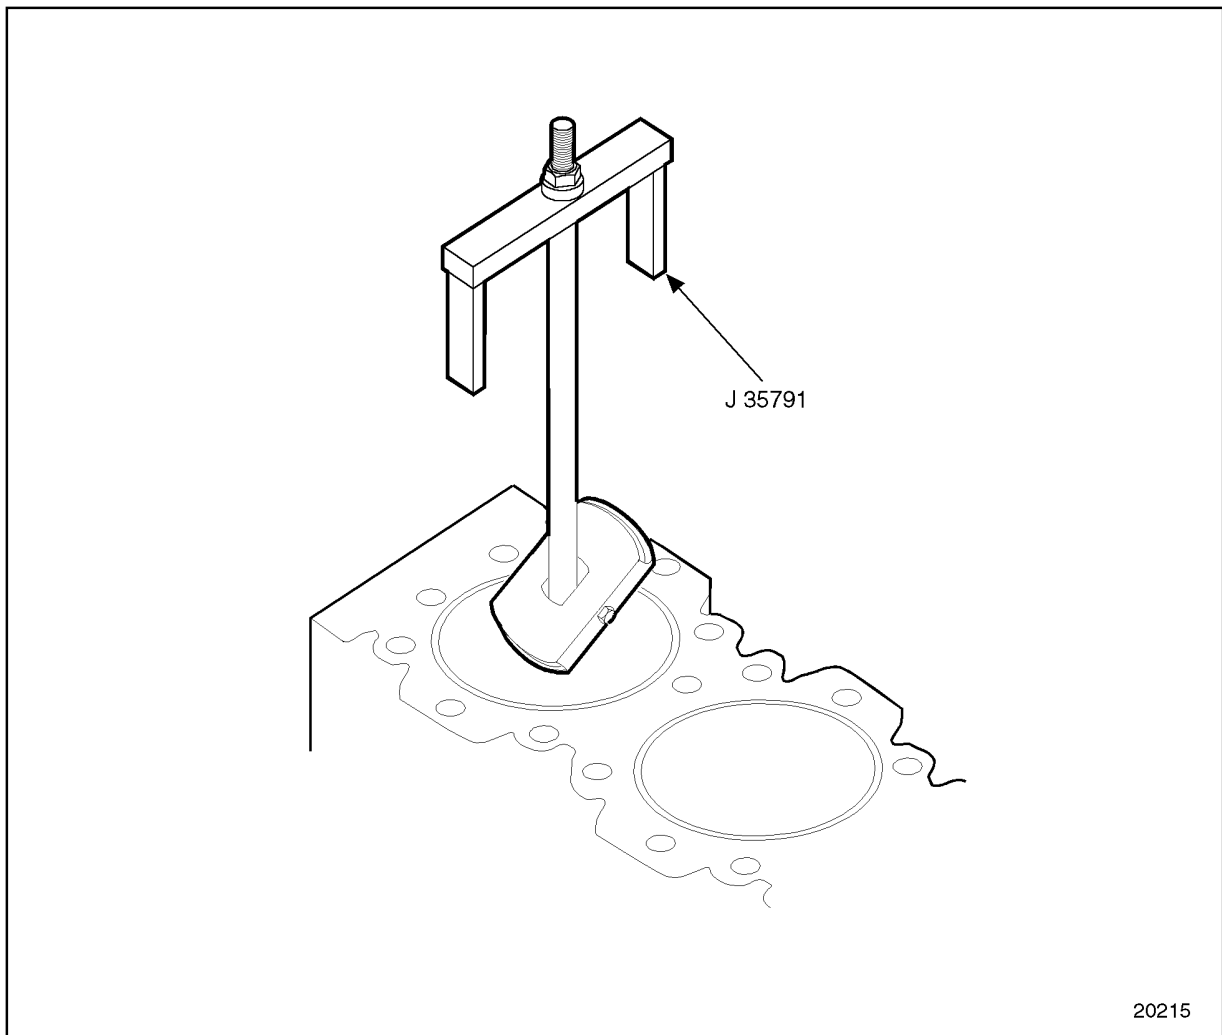
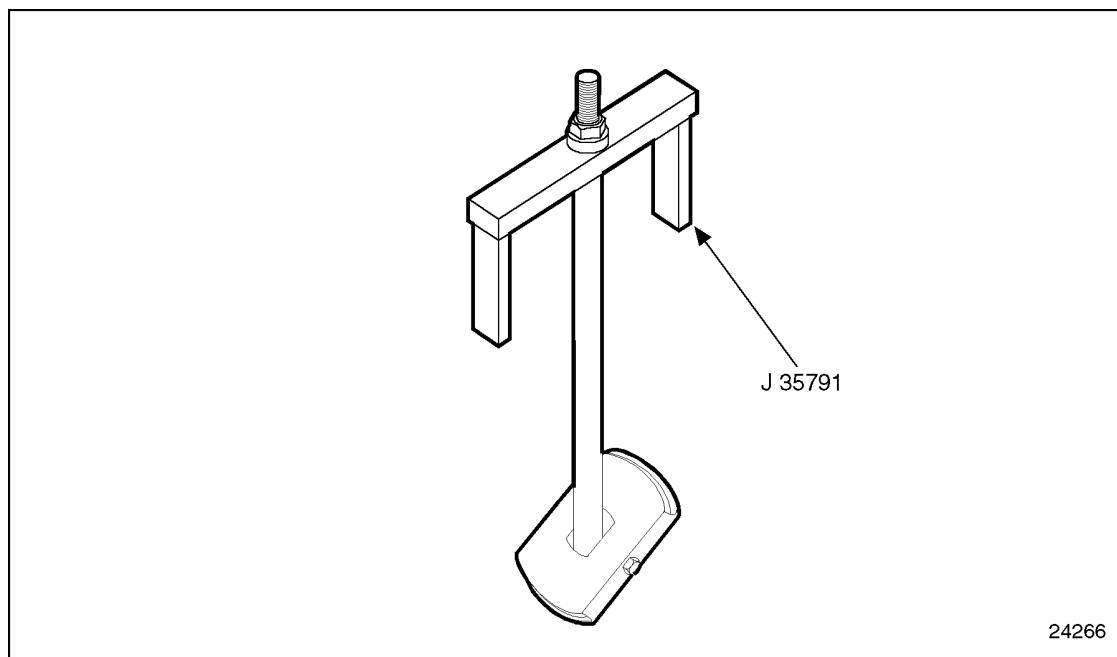

Figure 1-262 Cylinder Liner Remover
Figure 1-263 Cylinder Liner Removal Tool
2. Remove the cylinder liner with cylinder liner remover, J 35791. See Figure 1-262 and see Figure 1-263.